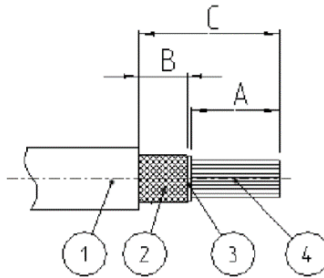

Figure 5: cutting cable to length
Step 2/步骤二 Strip and remove outer sheath, screening braid (if present screening foil), inner sheath and conductor from the end as shown in figure 5.
如图5所示，切开并去除外绝缘皮，屏蔽编织物（如果存在屏蔽箔），内绝缘皮和导体。剥线尺寸如表7所示